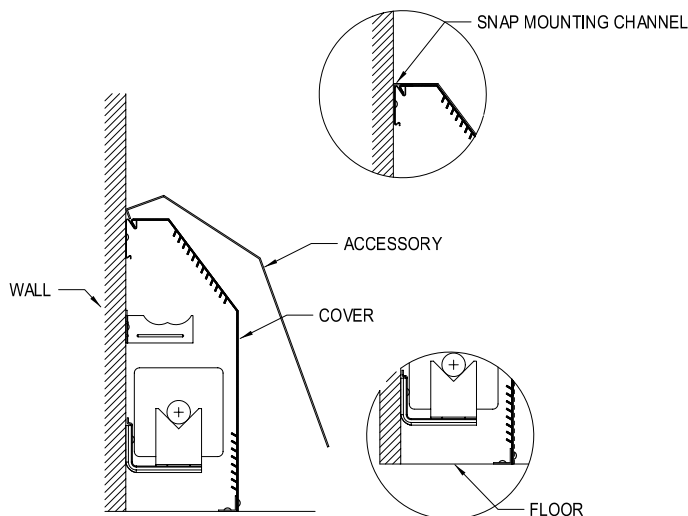

FIGURE V-6
- (6) Install accessories between the wall and wall channel at the top and around the cover at the bottom. Secure cover to floor mounted angle using suitable fasteners. (FIGURE V-6)